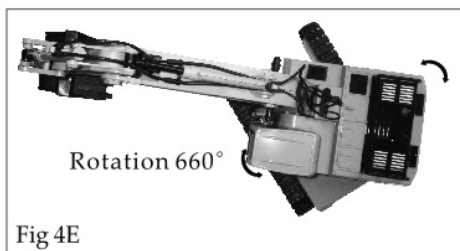

Fig 4E
6. Left/Right Rotation: press the key of "Left(or Right) Rotation", excavator will do a motion of left(or right) rotation, with a reminded sound of "Di- Di", the lamps of back also light up(Fig 4E)